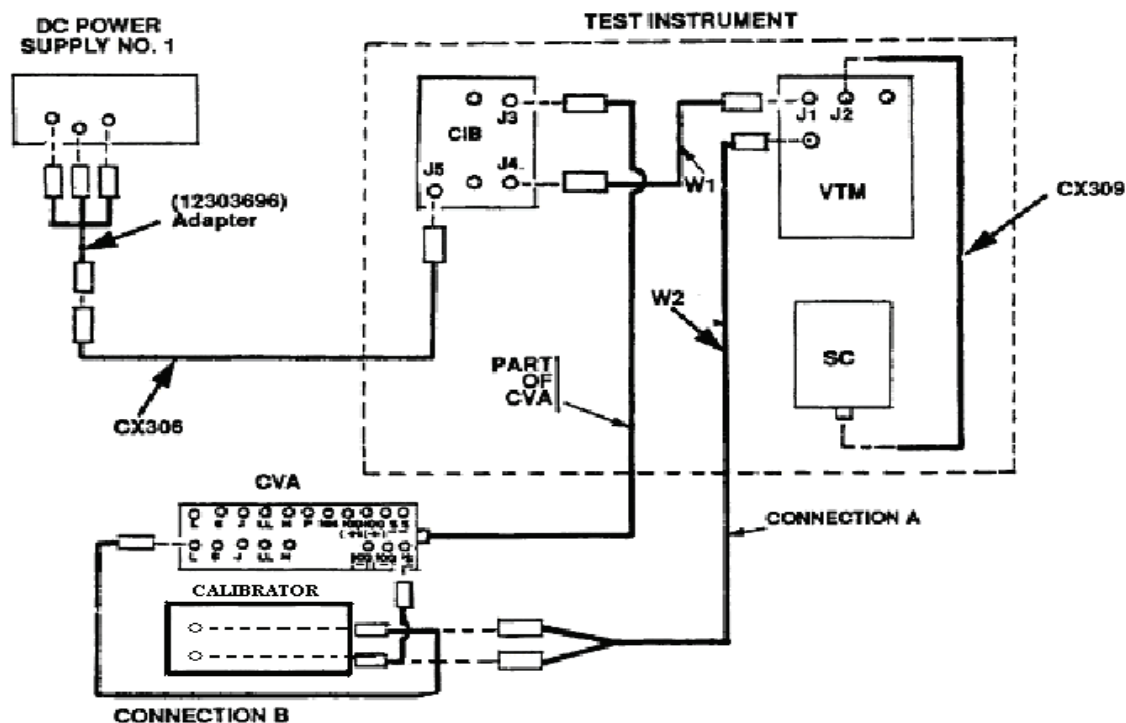

Figure 8. 10 V and 100 mV channel accuracy - equipment accuracy.
- a. Connect equipment as shown in CONNECTION A (fig. 8).
- (1) Set calibrator to **STANDBY** and +9.500 V output.
- (2) Connect equipment as shown in CONNECTION B (fig. 8).
- (3) Press **STOP** and **CLEAR** key on set communicator.
- (4) Using **DATA ENTRY** keys, enter **66657** on set communicator and press **GO** key.
- (5) Set calibrator to **OPERATE**. Set communicator will indicate between 9.3 and 9.7.
- (6) Set calibrator to **STANDBY**.
- (1) Connect equipment as shown in CONNECTION B (fig. 8), except connect + (positive) lead from calibrator to 100 (+) terminal on CVA and connect - (negative) lead to -100 terminals.
- (2) Set calibrator to all zeroes and **OPERATE**.
- (3) Using **DATA ENTRY** keys, enter **66659** on set communicator and press **GO** key.
- (4) Set output of calibrator to 95 mV. Set communicator will indicate between 90 and 100 mV.
- (5) Reduce calibrator output to 0.
- (6) Press set communicator **STOP** and **CLEAR** keys.
- (7) Repeat technique of (2) through (6) above for enter codes 66660, 66661, and 66662. Set communicator will indicate between 90 and 100 mV for each entry.
- (8) Set calibrator to **STANDBY** and disconnect from adapter.